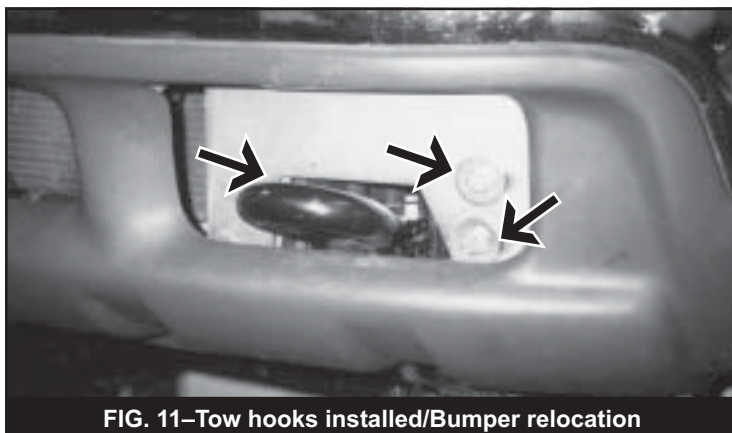

FIG. 11—Tow hooks installed/Bumper relocation
nuts, and twelve 7/16" USS washers (Fig. 11). Tighten to proper torque specs. *Use Loctite® on all mounting hardware.* **Note: On some vehicles the tow hooks may need to be spaced up more to have adequate clearance from bumper.**
46. Install the front bumper on the vehicle using four 7/16" x 1-1/2" bolts, four nuts, and eight 1-3/8" diameter 1/2" washers (Fig. 11). Adjust the bumper according to the measurements taken earlier and tighten to proper torque specs. *Use Loctite® on all mounting hardware.*